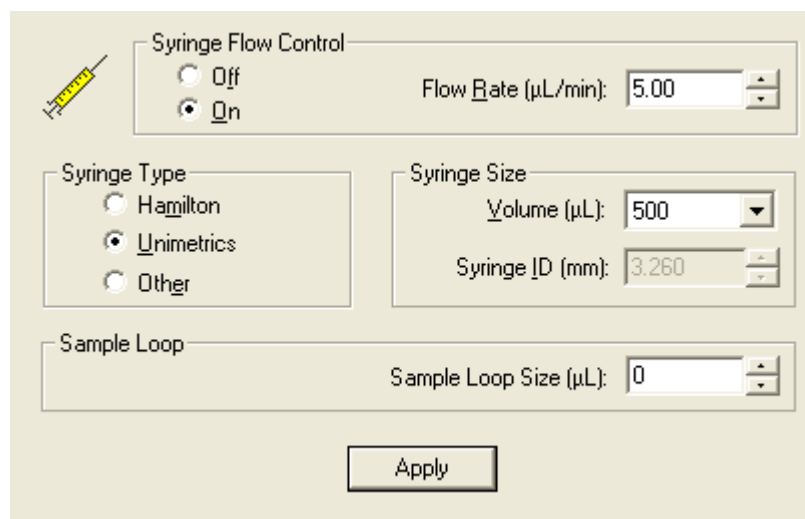

Figure 3-21. Syringe Pump and Sample Loop view, showing pump On
- a. In Tune Master, select **Setup > Syringe Pump & Sample Loop** to display the Syringe Pump and Sample Loop view in the top right corner of the workspace. See Figure 3-21.